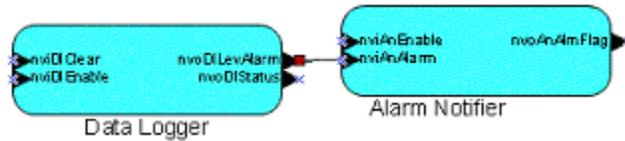

Figure 6.3 Data Logger Drawing
3. Connect the **nvoAnAlarmFlag** output network variable of the **Alarm Notifier** functional block to the **nviDIClear** network variable of the **Data Logger** functional block. If you are using the LonMaker tool, your LonMaker drawing should now appear as shown in Figure 6.3